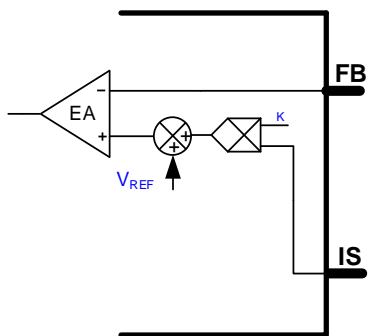

Figure 12: Cable Drop Compensation
The voltage drop on the cable is proportional to the output current, which is reflected on the voltage of the IS pin (see Figure 12). The maximum CDC voltage on FB is $V_{CDC-MAX}$. The cable drop compensation voltage can be calculated with Equation (20) on page 29.